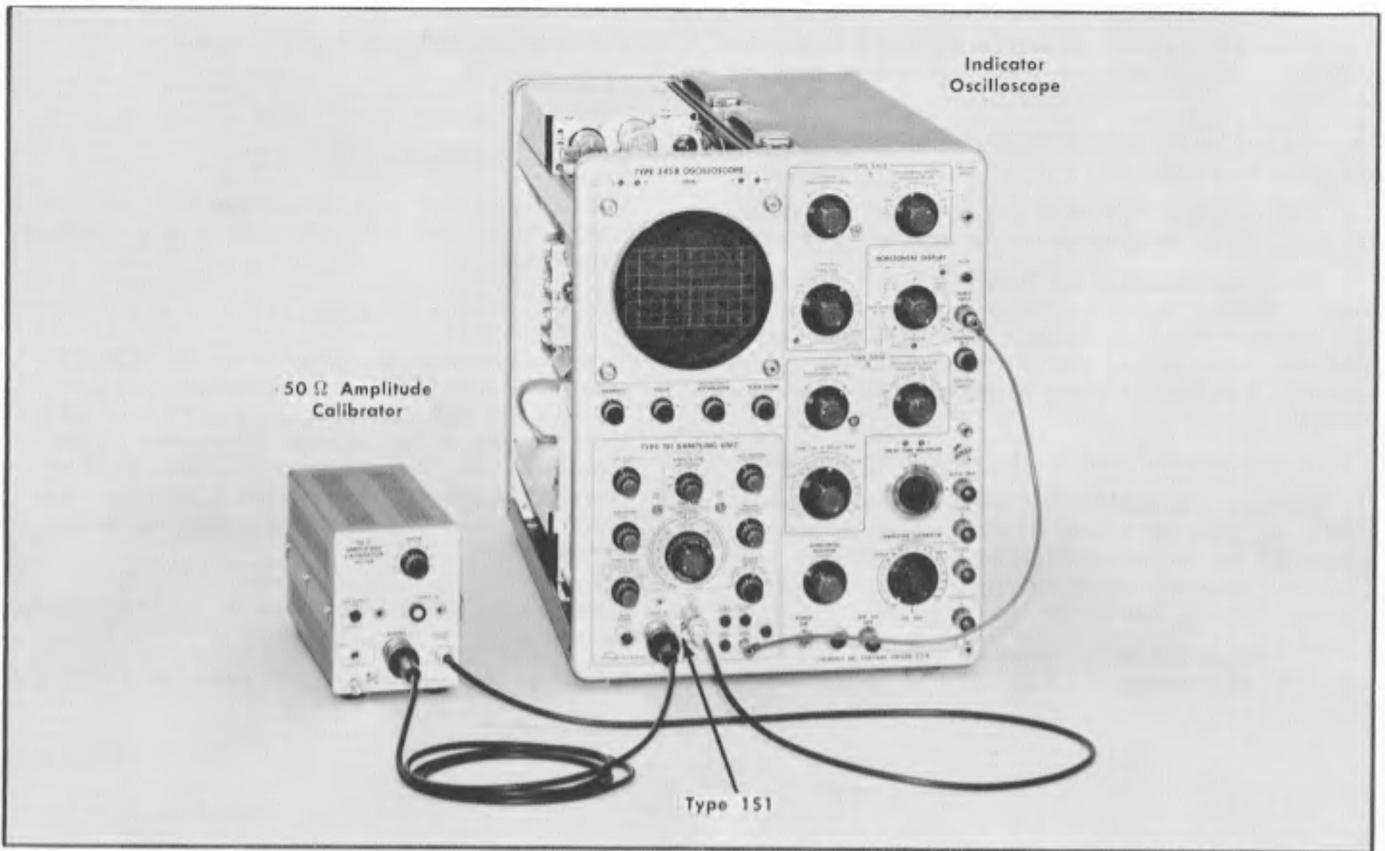

Fig. 5-36 Initial test equipment setup for steps 21 through 23.
- a. Test equipment setup is shown in Fig. 5-36.